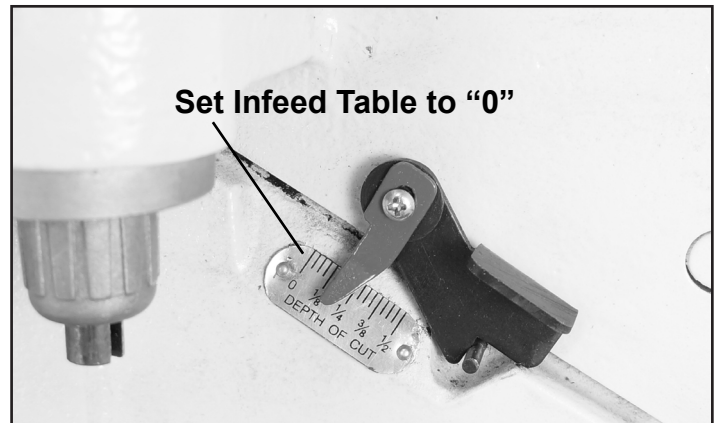

FIG. 30
2. Set the infeed table to the '0' setting on its depth of cut scale. FIG. 30.